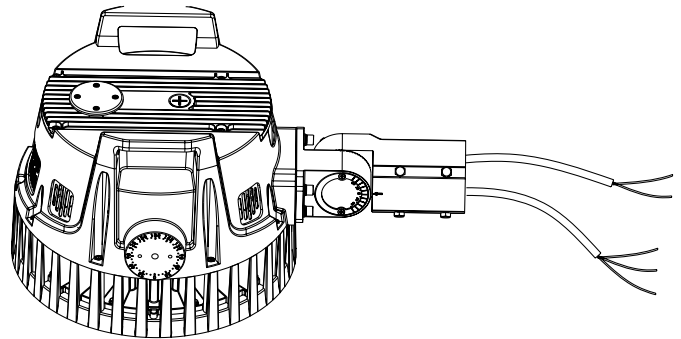

Figure 4
- Install the bracket on the fixture (Figure 4).